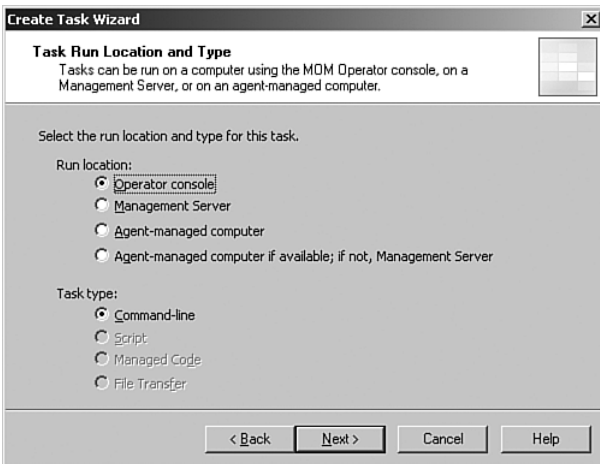

FIGURE 20.28 Configure the task run location and type.
3. Selecting Create Task starts the Create Task Wizard, which walks us through the process to create the task. On the first screen click Next to continue to the Task Run Location and Type screen. This screen, shown in Figure 20.28, provides choices for where the task will run (Operator console, Management Server, Agent-Managed Computer, Agent-Managed Computer If Available; If Not, on the Management